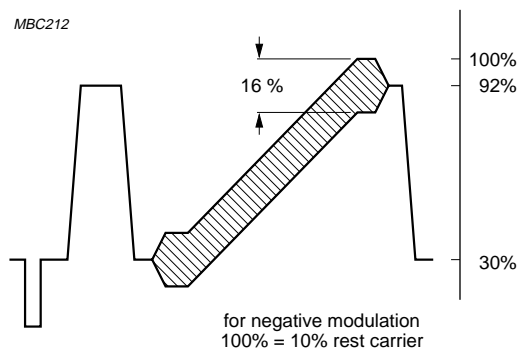

Fig.5 Video output signal.
- Measured in accordance with the test line given in Fig.5. For the differential phase test the peak white setting is reduced to 87%.